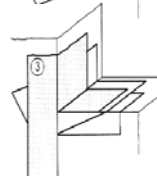

Figure No. 1
- 2) For sill-jamb intersections, and similar conditions, apply the Dryvit Flashing Tape as shown in Figure No. 1 below. Apply the sill piece first, then apply the corner splice piece. The jamb piece is applied next, lapping over the splice piece.